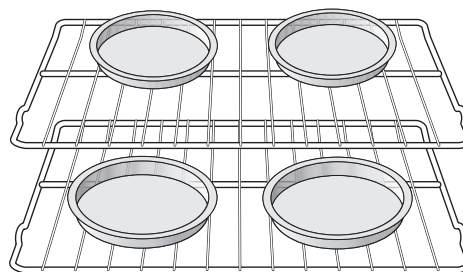

Figure 6: Baking on multiple levels
- For best results when baking cakes or cookies using two oven racks, place pans as shown in Figure 6.